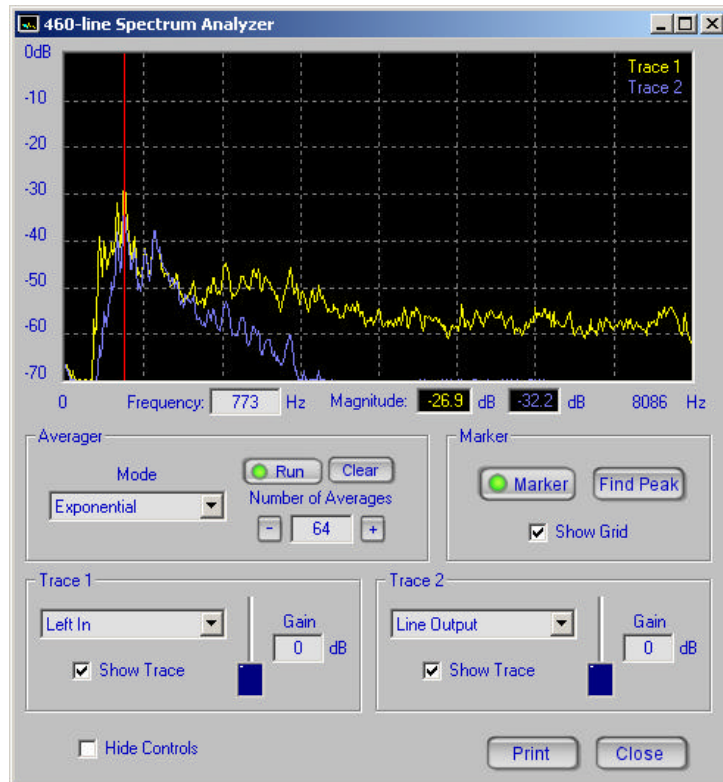

Figure 3-14 Tutorial Spectrum Analyzer Window
43. Click on the **Spectrum Analyzer** button. This will cause the Spectrum Analyzer window (Figure 3-14) to appear as follows: (The actual spectral display will depend upon the audio being processed.)
Use the mouse to set up all controls as they appear in Figure 3-14. Make sure that the **Left In** selection is chosen in the Trace 1 signal select box, that the **Line Output** selection is chosen in the Trace 2 signal select box, and both **Show Trace** boxes are checked.